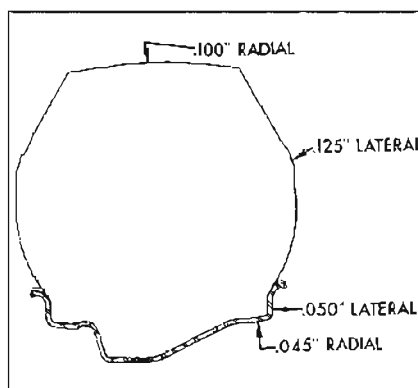

Figure 7-7—Runout Limit Specifications
Wobble or runout of a tire, either front or rear, due to bent wheel or to tire being improperly mounted will cause uneven wear. The runout of wheel and tire when rotated should not exceed specification shown in Figure 7-7.
A dial indicator may be used to check runout on wheel and tire assemblies at points shown on Figure 7-7. Tire runout should be checked immediately after the car has been driven, as tires take a "set" after standing for a short period. NOTE: It should be stressed that the runout found is a mere indication and not proof of the source of trouble.
3. Mount the dial indicator on a firm base and check total indicator runout at the points indicated in Figure 7-7.